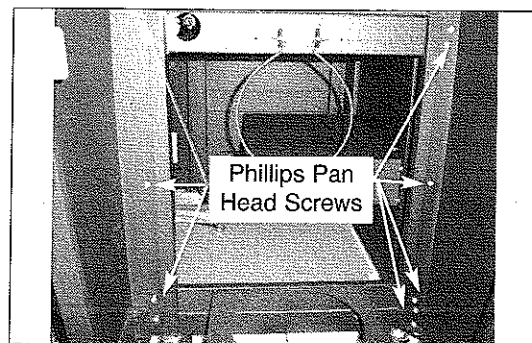

Fig 4
4. Remove the seven (7) Phillips pan head screws on the side burner cart front and back panels. (See Fig. 4)